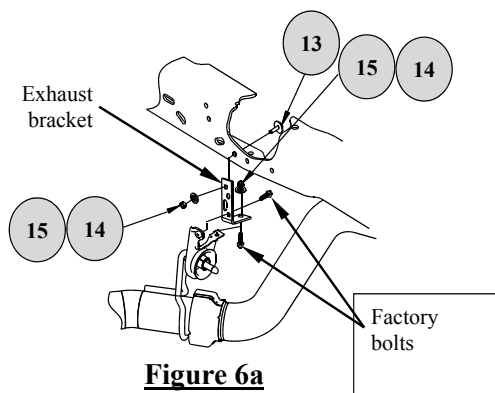

Figure 6a
20. If there is less than 1/2" clearance between the exhaust pipe and the cross members, the exhaust bracket supplied with the 4448 mounting kit must be used (See figure 6a and 6b). For the rear attachment (Figure 6a), fasten the supplied bracket extension to the factory bracket with the factory M8 bolts, then fasten the extension to the frame with the supplied hardware. Reattach the exhaust bracket forward of the axle to the frame cross member with 3/8" spacers sandwiched between the bracket and cross member.